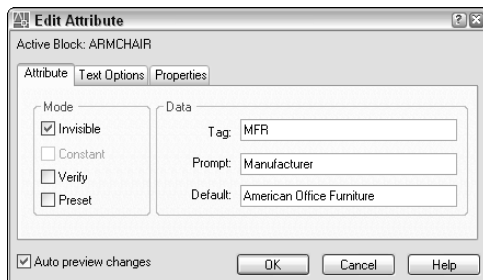

**Figure 18-35:** The Edit Attribute dialog box.
- ♦ **Edit the attributes, including prompt, default, text display, and properties.** Click Edit to open the Edit Attribute dialog box, as shown in Figure 18-35.